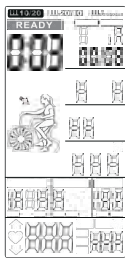

Figure 24
- ⑦ Press any PROGRAM key then perform the program accordingly.
- ① Press INTERVAL key to select INTERVAL20/10, press ENTER then **INTERVAL20/10** will light up, along with a long sound for 1s.
- ② Cycle time counts down from 3 to 0 then console start, meanwhile buzzer beeps once per second and **READY** flashes once per second, counting displays '00/08' (Figure 24).